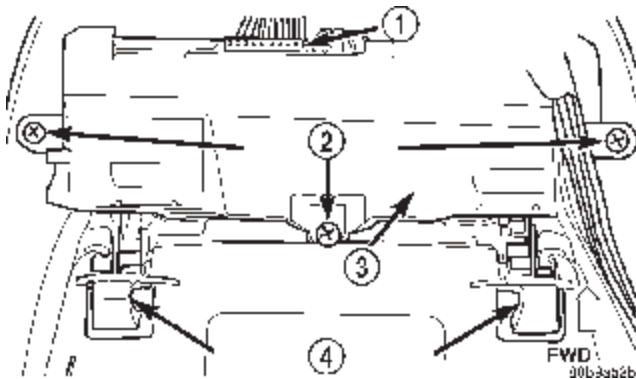

Fig. 7 Compass Mini-Trip Computer
- (1) Disconnect and isolate the battery negative cable.
- (2) Remove the overhead console from the headliner. Refer to **Overhead Console** in the Removal and Installation section of this group for the procedures.
- (3) Remove the three screws that secure the compass mini-trip computer module to the overhead console housing (Fig. 7).